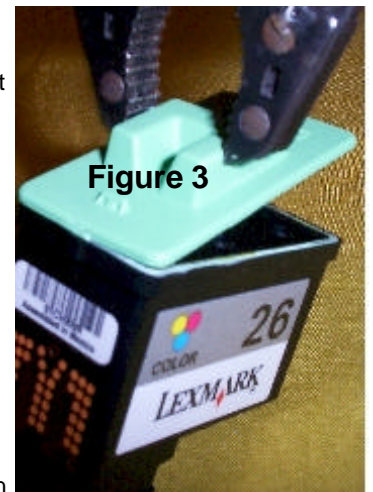

Figure 3
1. Use a pair of pliers (we recommend a small pair of ROBO-GRIP pliers available at Sears), to crack the original adhesive seam of the cap. It might be easiest to lay the cartridge on its side (#26, #82, #88 label down) and use the pliers to grip the raised portion of the cap and using a side lever crack one side then the other. You can then lift the cap off of the cartridge as shown in figure 3.